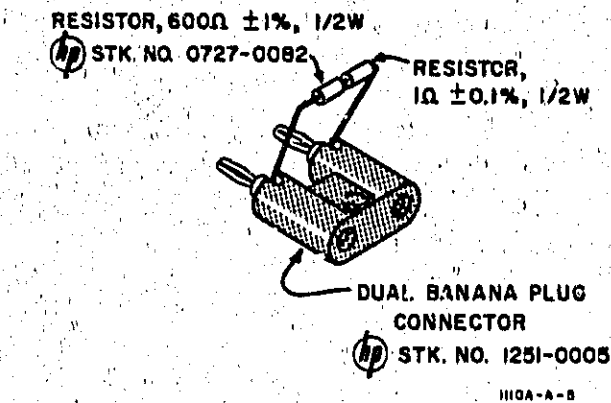

Figure 3. 600 Ohm Load
d. Connect the AC Voltmeter across the 1 ohm resistor on the 600 Ohm Load (ref. Figure 3).